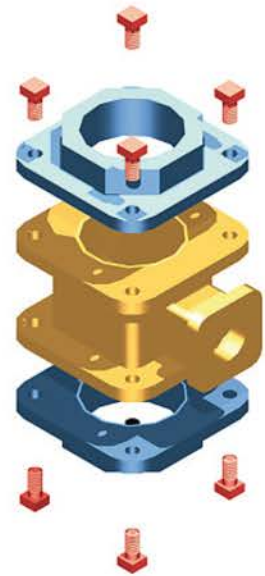

Fig. 18.11 Second example UCS
SECOND EXAMPLE – UCS (FIG. 18.11)
19. Finally, move all the parts away from each other to form an exploded view of the assembly (Fig. 18.11).